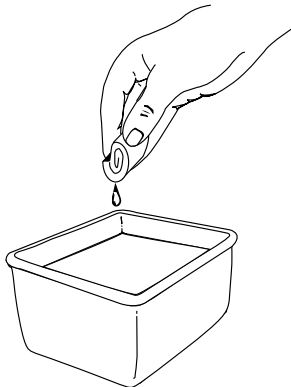

Fig. 44
3. Wash the filter in detergent and water (Fig. 44). Rinse the filter thoroughly and allow it to dry.